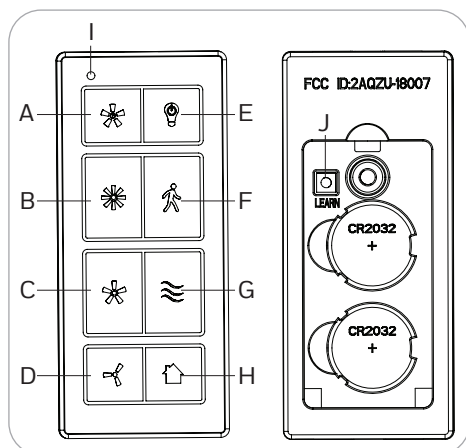

Figure 5.1
1. To operate the fan using the remote, press and release the following buttons (Figure 5.1):